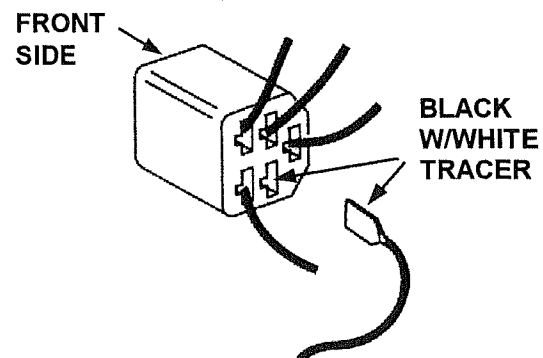

FIGURE 19 IGNITION SWITCH CONNECTOR BODY
4. (See figure 19) Remove the wire shown (black w/white tracer) from the ignition switch connector. Use a small screwdriver (1/16" blade) inserted into the front of the connector to release the locking tab.